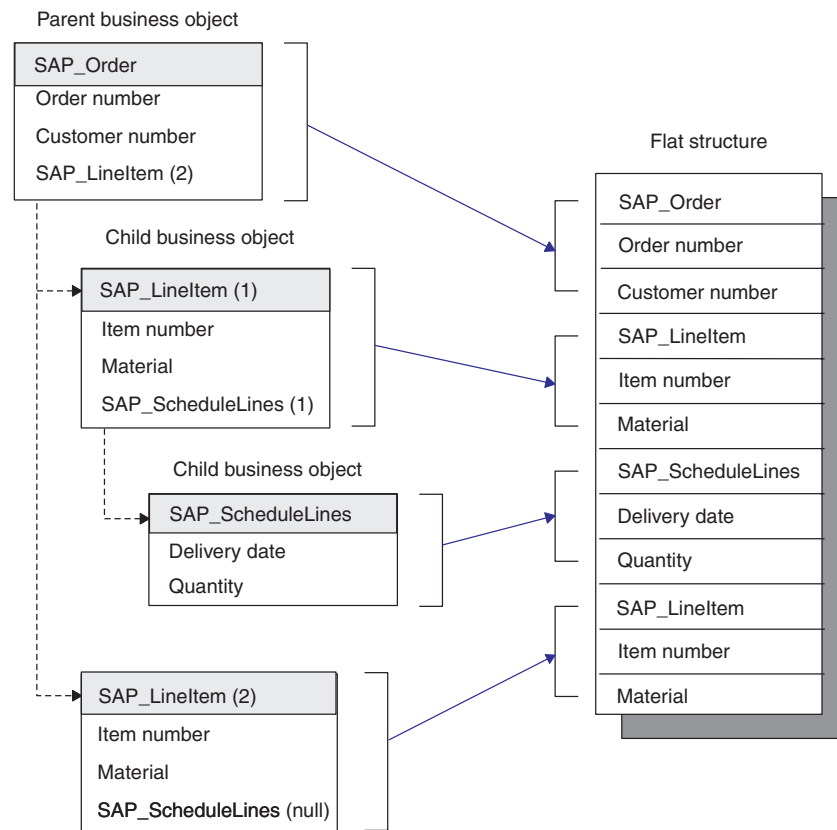

Figure 72. Conversion from a business object to a flat structure
Figure 72 illustrates the data conversion of a WebSphere business object for SAP into a flat data structure. The conversion of data always follows the rule of depth first and then breadth. In the example, the top-level parent business object, SAP_Order, has two children, SAP_LineItem (1) and SAP_LineItem (2), which are considered peers. SAP_LineItem (1) has one child business object, SAP_ScheduleLines.